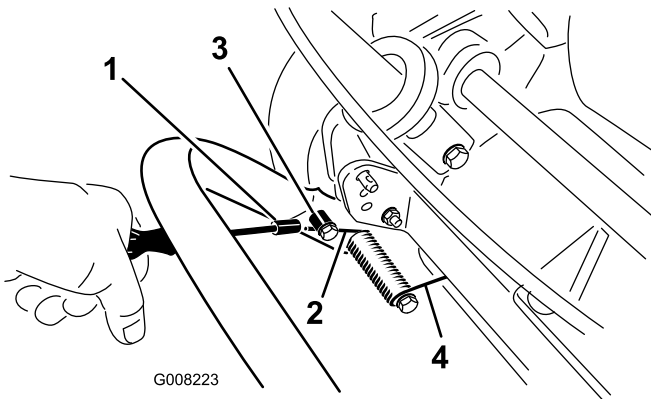

Figure 6
6. Place a nut runner over the end of the spring pointing towards the rear and move the end of the spring over and under the kickstand spacer (Figure 6).